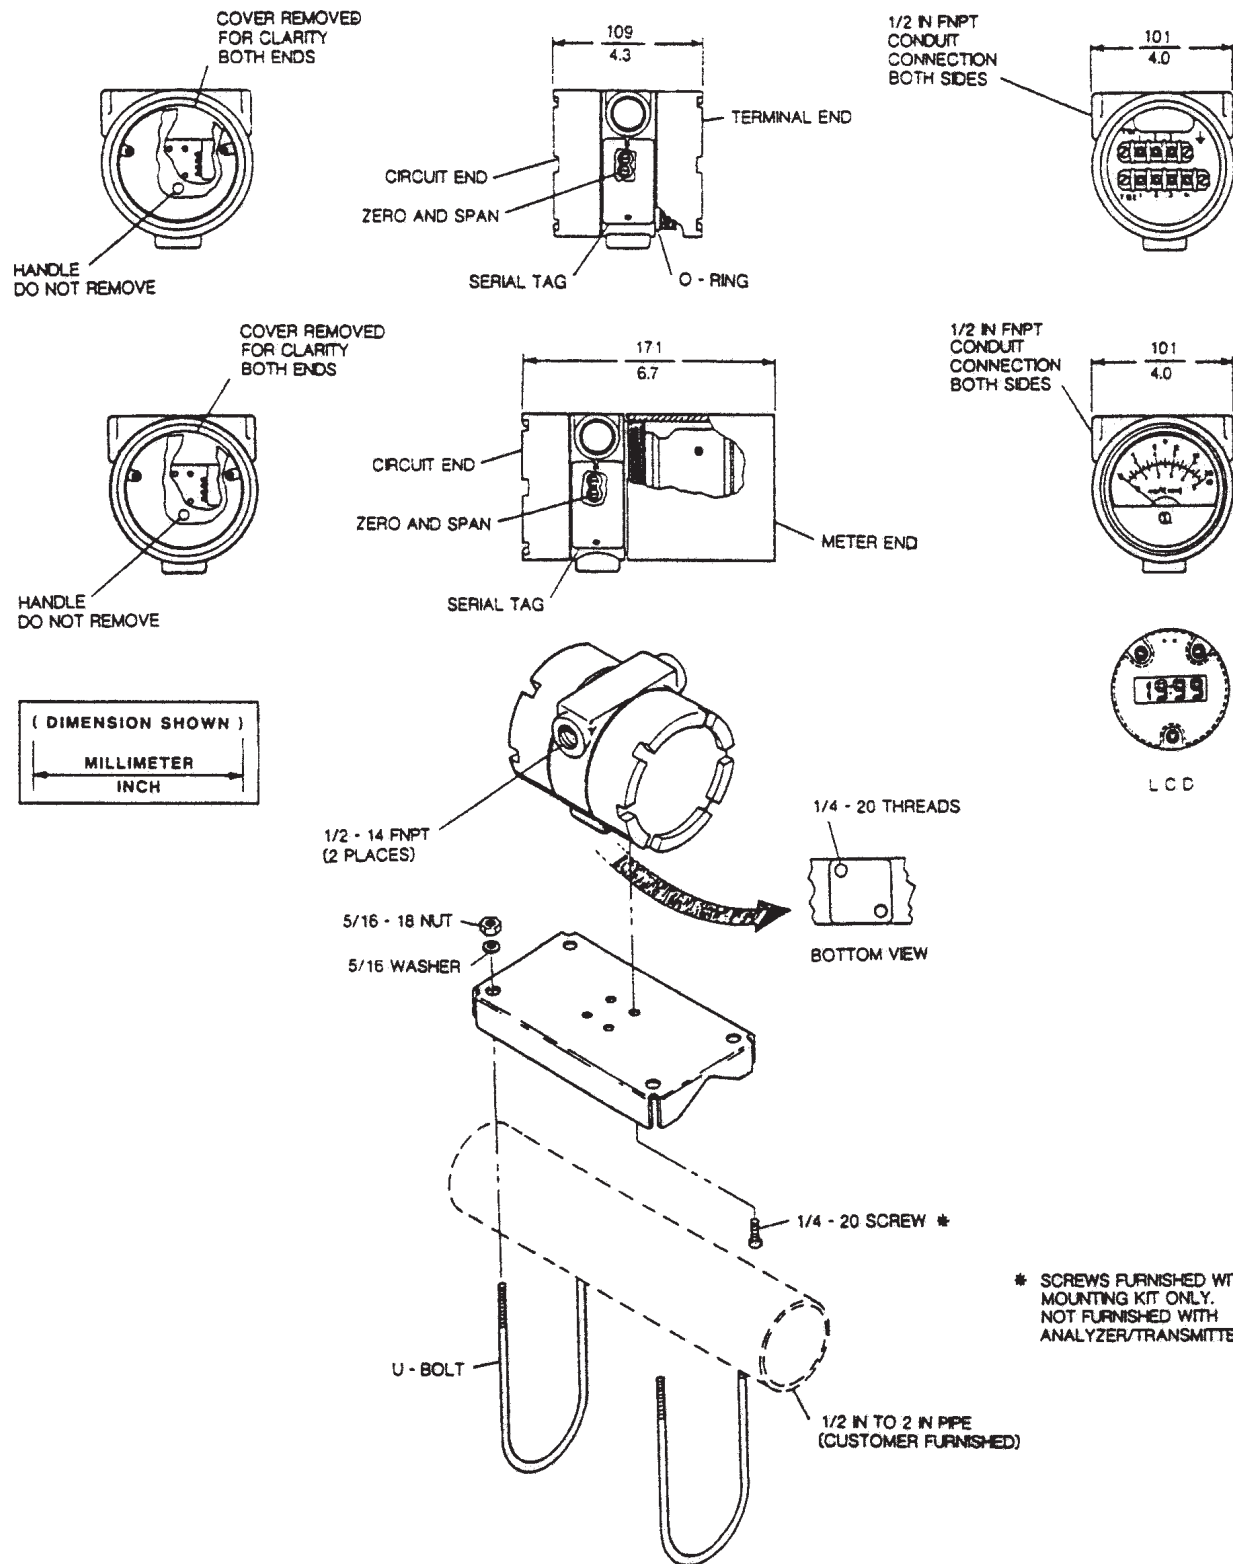

FIGURE 2-1 Mounting and Dimensional Drawing
2.2.2 Mounting. The transmitter may be mounted on a flat surface using the two threaded mounting holes located on the bottom of the transmitter or through the use of an optional 2-inch pipe/wall mounting bracket, Code 07 (see Figure 2-1).